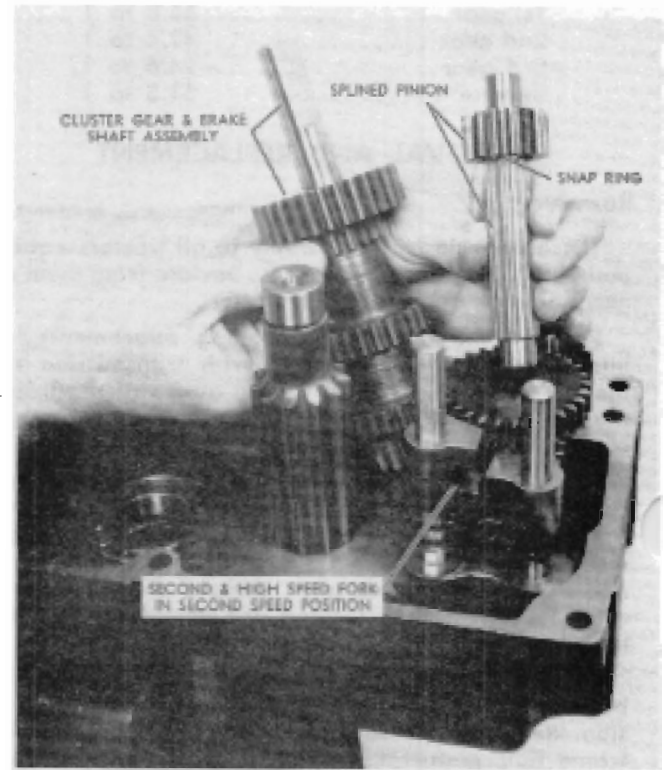

FIGURE 5
10. Shift the 2nd and high shift fork assembly up into the 2nd speed position. See Figure 5.
11. Remove the splined pinion shaft and gear. At the same time the cluster gear and brake shaft assembly may be removed. See Figure 5.